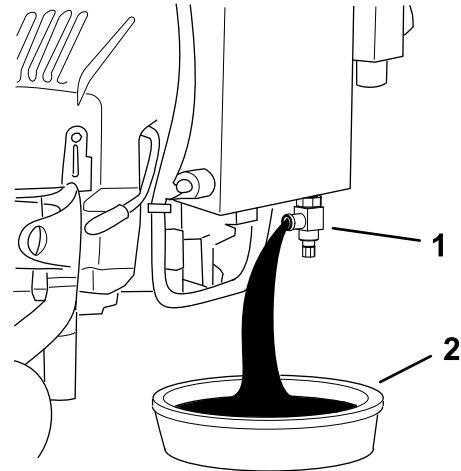

Figure 40
6. Place a drain pan under the drain valve (Figure 40).